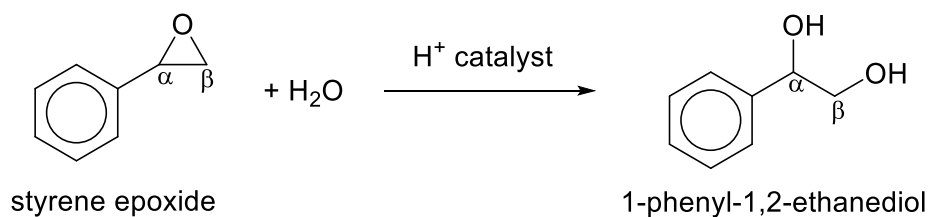

Fig 5.2
- (c) The acid-catalysed hydrolysis of styrene epoxide forms 1-phenyl-1,2-ethanediol as seen in Fig 5.2.
- (i) Based on your understanding of steric hindrance, circle the carbon, α or β , of the epoxide that would be attacked by the H_2O nucleophile in Fig 5.2. [1]